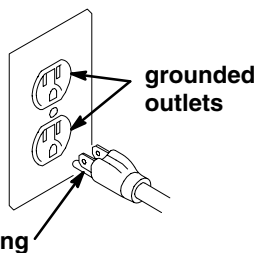

Fig. 4
- This equipment requires a 120V AC, 60 Hz, 15A circuit with a grounding receptacle. See Fig. 4.